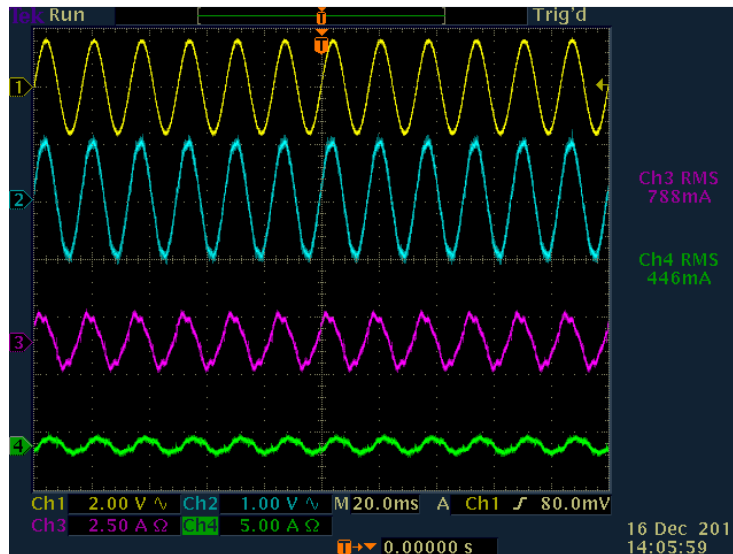
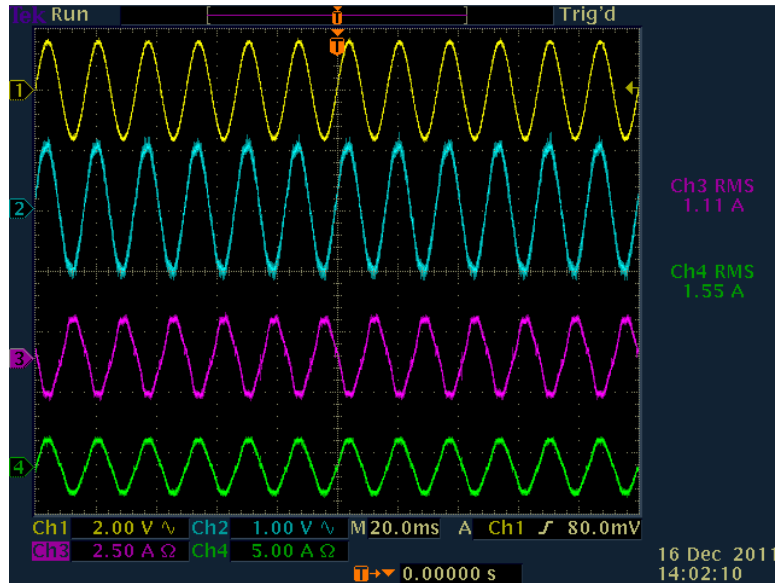

Fig 39 Load Power = Power From Inverter + Power From Grid, V_{rms} ~15-16V, R_L ~15 Ohms
Fig 41 Load changed(reduced) w.r.t. Fig 40,
Verify that the $Gui_LightCondition$ value is 0.2 in the watch window, Now change the value of $Gui_InvStart$ to 1, the state machine will now kick in. MPPT will be enabled and the DC bus will start rising and as it reached 30V the inverter close loop operation will be started. The state can also be monitored by watching the variable $PVInverterState$ in the watch window. Note the $Gui_PanelPower$, which shall now be close to the theoretical value. This shows the tracking of the MPPT from a cold start. Fig 39 Shows the current waveform with the inverter and the grid current, as they are almost in phase this shows the currents from the two sources i.e. the grid and the PV inverter sum together to provide the required current for the load.
11. **Power From Inverter = Load Power + Power Fed Into the Grid**, Now change the Gui_LightCommand set to 0.8, The Gui_PanelPower_Theoretical will now change to _IQ9(28.7), as MPPT is on the Gui_PanelPower is tracked close to 28.7W. Now as the inverter has surplus power that, it starts feeding power into the grid. This reversal in power flow is characterized by the phase change in the grid current Fig 41 w.r.t the inverter current as compared to the previous case of Fig 39.